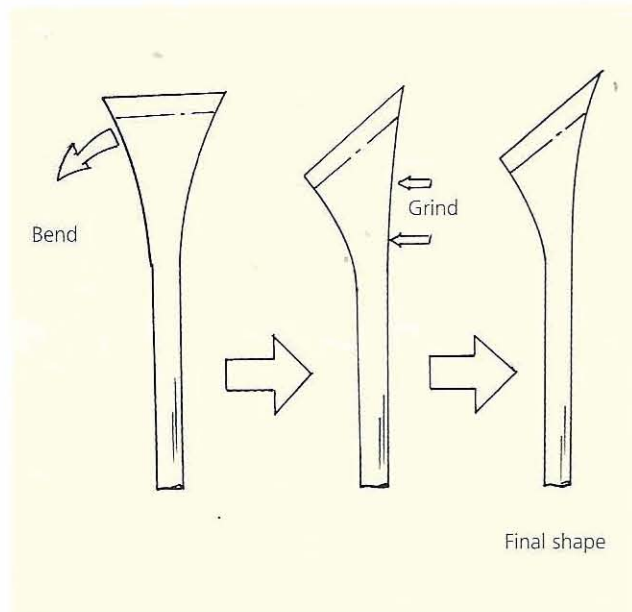

Fig 3.31 One way of making a skewed fishtail chisel using both hot and cold procedures
- Bend a normal fishtail chisel sideways; the shank then has to be hammered straight and the edge lined up again (Fig 3.31).